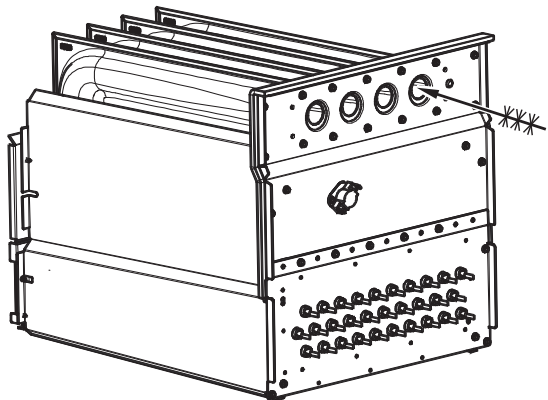

Fig. 66 – Cleaning Heat Exchanger Cell
7. Clean heat exchanger openings with a vacuum and a soft brush. See Fig. 66.
8. Reverse items 6 through 1 for reassembly.